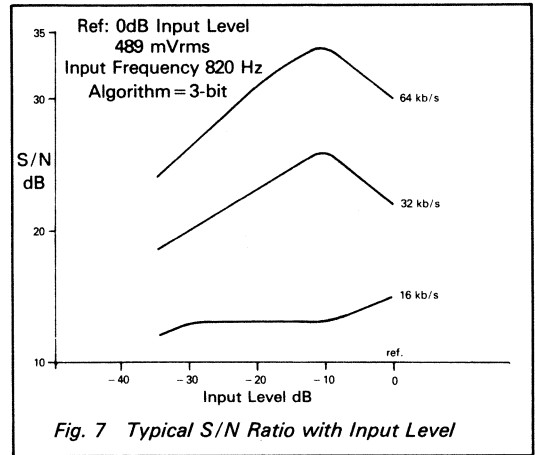

Fig. 7 Typical S/N Ratio with Input Level
5. Recommended values—see graph Fig. 7.
15	WAIT Output: The circuit requires a minimum Chip Select time of t ACS . If the host μP has a CS time of less than this the WAIT output must be used to delay the μP when accessing the FX709. (See Figure 7). (100kΩ internal pullup to V DD ). NOTE: If the WAIT output is to be used, then to prevent spurious operation of this function during Power-Up, it is recommended that: a: Power-Up of the FX709 is delayed until μP Power-Up is complete, or, b: The Chip Select input is held open-circuit during the FX709 Power-Up sequence.